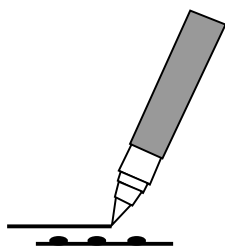

Figure 2
- c. Remove the cap. Pressing the spring loaded tip lightly down on a piece of scrap paper while squeezing the pen barrel firmly starts the ink flowing. Drawing the pen slowly across the paper produces a solid line. Drawing speed and exerted pressure determines the path width. (see Figure 2)